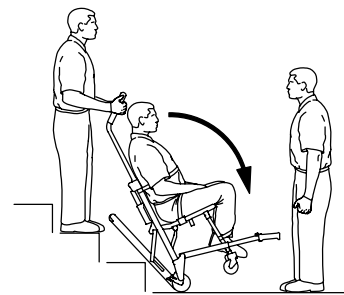

Figure 13 – Bottom of stairs
10. Foot end operator: When the track reaches the last step, release the front handles. Head end operator: Allow the chair to tip forward (Figure 13) until all four wheels are on the ground. Roll the chair (see *Transporting the occupant on flat surfaces* (page 13)).